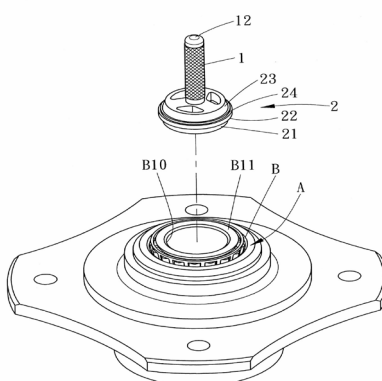

FIG.2
In operating for positioning the bearing (B), as shown in Figs. 2 and 3, firstly, the positioning press block 2 has its first fitting member 21 (or the second fitting member 23) closely contacting with the inner wall (B10) of the bearing (B) and its first holding edge 22 (or the second holding edge 24) closely and horizontally resting on the upper edge (B11) of the bearing (B)